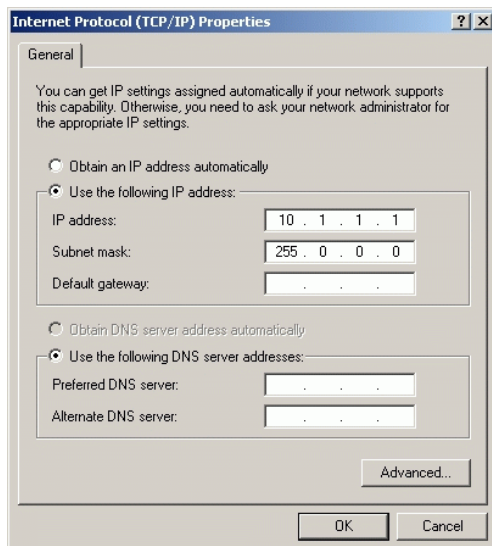

Figure 2-56 Internet Protocol (TCP/IP) Properties Dialog Box
5. Double-click the *Internet Protocol (TCP/IP)* entry. The *Internet Protocol (TCP/IP) Properties* dialog box displays (Figure 2-56 on page 2-62).